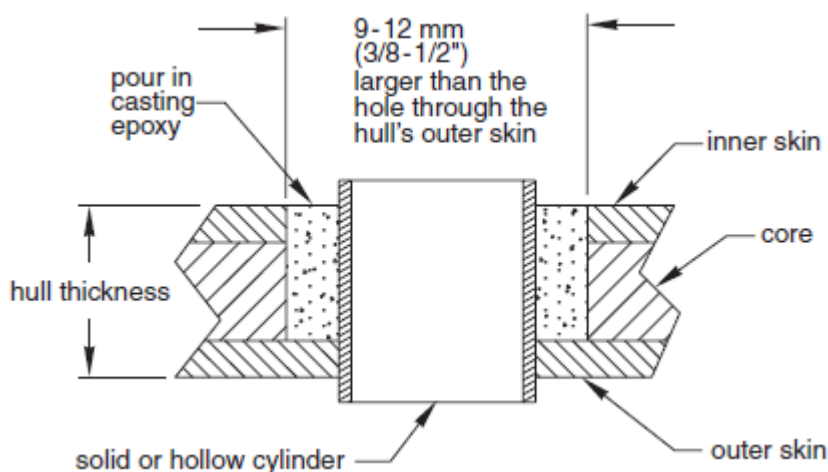

Figure 2-4: Preparing a cored fiberglass hull
2. Using a 51 mm hole saw, cut the hole from outside the hull through the *outer* skin only (see Figure 2-4).